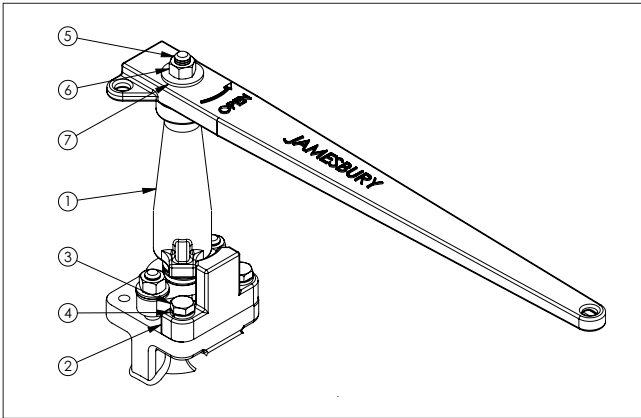

Figure 14. Stem Extension
2. Lower the handle stop (2) straight down in line with the valve stem until it is flat on the valve bonnet, and both mounting holes align with tapped holes on the valve (see **Figure 14**).
3. Insert the stop screws (3) and lock washers (4) into the mounting holes and thread into the valve until finger tight only.
4. Screw threaded rod (5) into tapped hole on top of stem.
5. Aligning the slot in the stem extension (1) with drive on the stem, lower the stem extension straight down over the threaded rod (5) and in line with the valve stem until it is completely engaged. If the stem extension (1) interferes with the stop (2), move the stop slightly to remove interference. DO NOT rotate stem!
6. Aligning the slot in the handle with drive on the stem extension (1), lower the handle straight down over the threaded rod (5) and in line with the stem extension drive until it is completely engaged. **NOTE:** When looking down at the top of the valve, the cast lettering and "OPEN" arrow on the handle should be visible. If they are not visible the handle is installed upside down.
7. Install the washer (7) over the threaded rod onto the handle. Thread handle nut (6) onto threaded rod and tighten handle nut (6) to torque value listed in **Table 5**.
9. Rotate stop (2) until the stop contacts the side of the stem extension stop boss (1) (see **Figure 14**).